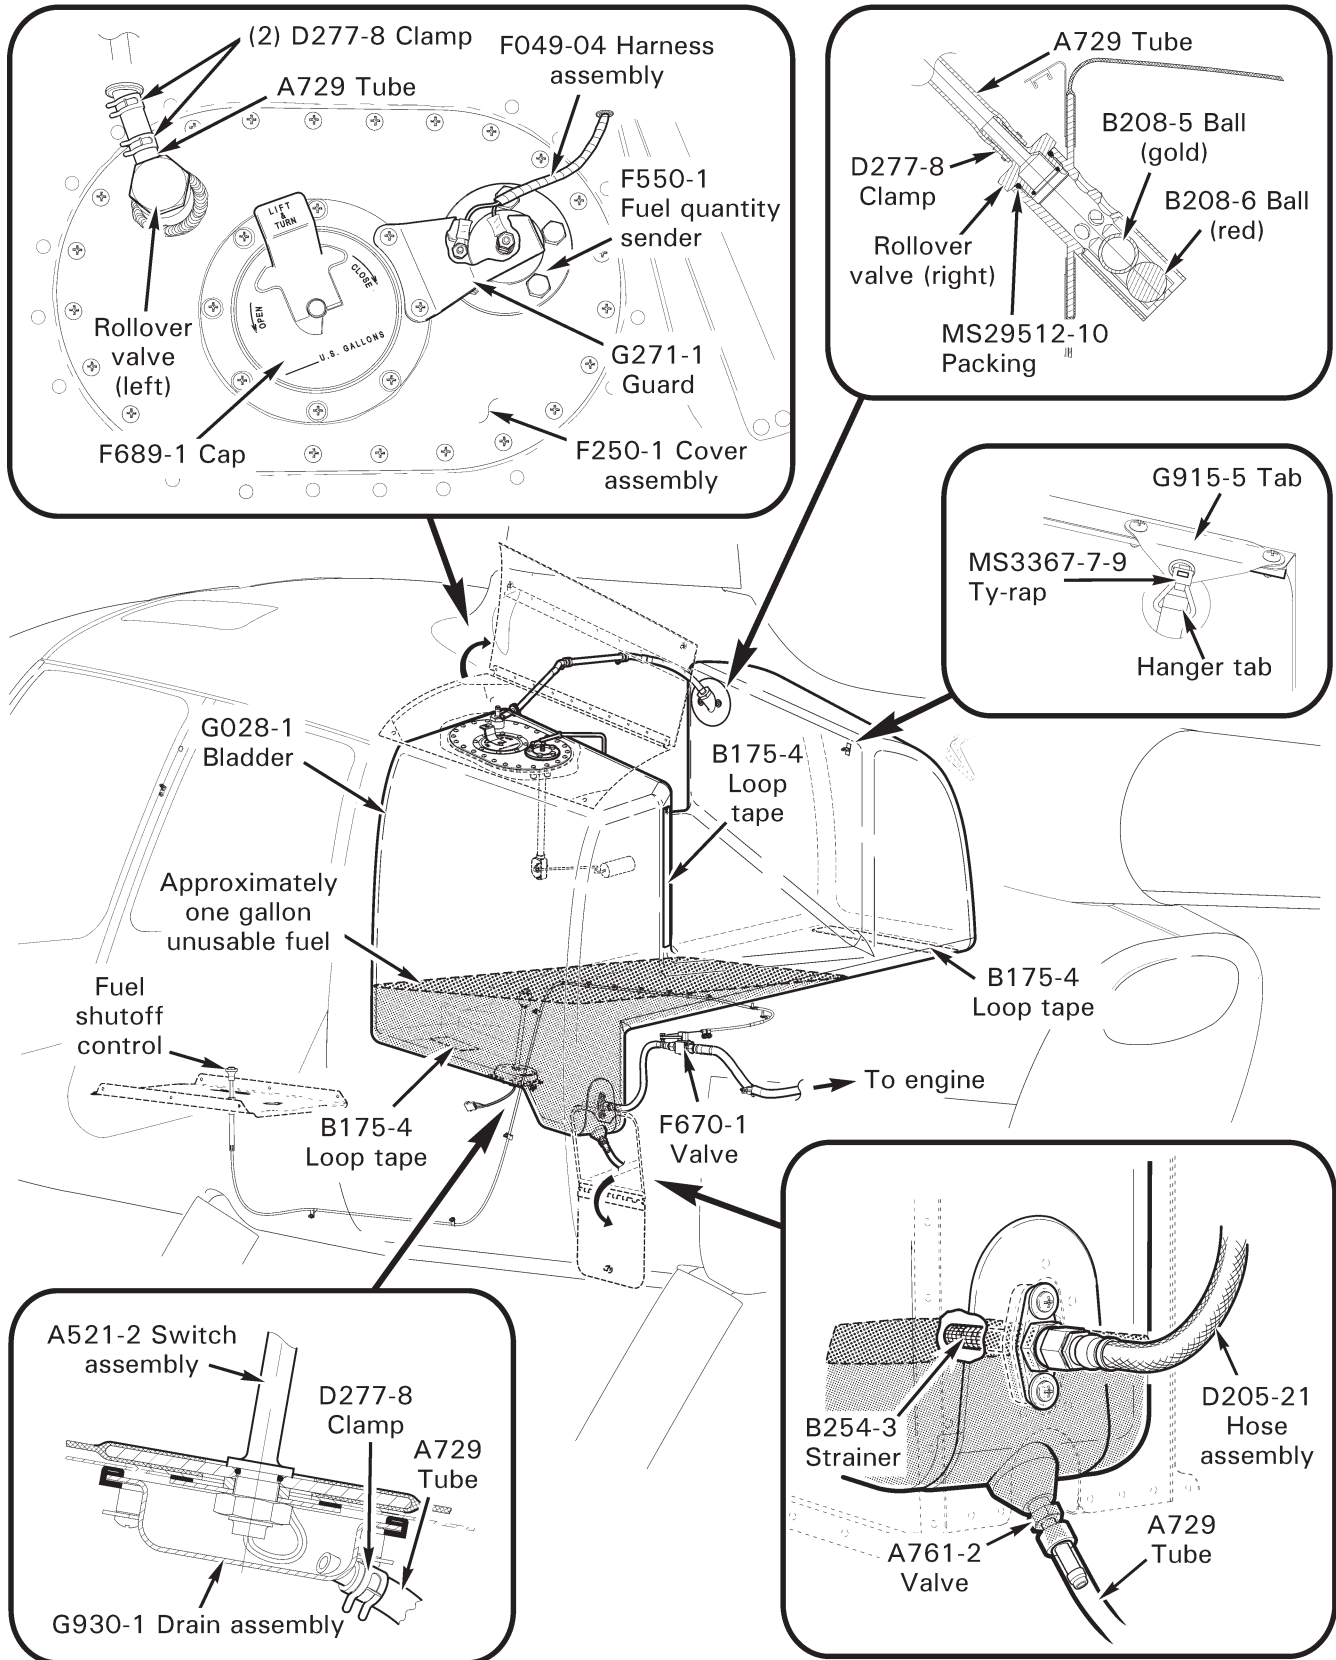

FIGURE 28-1 MAIN FUEL SYSTEM
4. Refer to Figure 28-1. Remove D277-8 clamps or cut and discard safety wire securing A729 tube to left rollover valve and pull tube off of valve. Remove screws securing F250-1 cover assembly to G028-1 bladder assembly and F028-1 support assembly and remove cover. Remove and discard o-ring.
1. Refer to Figure 28-1. Dust exterior of G028-1 bladder assembly and F028-1 support assembly floor with talcum powder to facilitate bladder slippage along metal surface. Do not allow powder to enter bladder.
2. Refer to Figure 28-1. Remove D277-8 clamp(s) or cut and discard safety wire securing A729 tube to rollover valve and pull tube off of valve.
2. Refer to Figure 28-1. Cut and discard safety wire (if installed) securing A729 tube to A761-2 or 1250H (sump) valve and remove tube.
2. Refer to Figure 28-1. Lightly coat valve threads using B270-6 sealant. Remove tape and install valve in bladder outlet. Standard torque valve per § 20-32 and torque stripe per Figure 5-1.
2. a. Main tank: Refer to Figure 28-1. Remove screws securing G271-1 guard to F250 cover assembly and remove guard.
3. a. Main tank: Refer to Figure 28-1. Remove tape and carefully lower F550-1 fuel quantity sender lever through F250-1 cover assembly opening.
3. Refer to Figure 28-1. Remove D277-6 clamp or cut and discard safety wire securing A729 tube to G930-1 drain assembly. Remove screws securing G930-4 retainer and drain assembly to G250-1 sump tray.